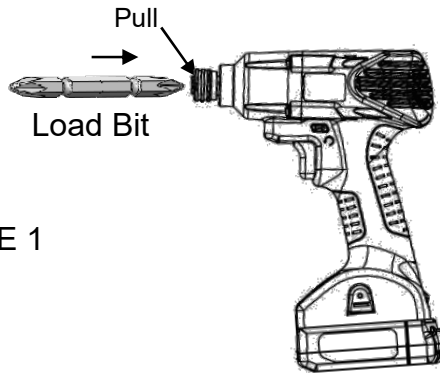

FIGURE 1
<div><div><p>(FIGURE 1)</p></div><div><p>Clip Latch Switch</p><p>(FIGURE 2)</p></div><div><p>(FIGURE 3)</p></div></div>
<p>(1) As shown by the circle in Figure 1: After the inverted triangle arrow on the screwdriver is aligned with the positioning line on the Battery, press the screwdriver down with clip latches.</p> <p>(2) Push the screwdriver as shown in Figure 2 in the direction of Battery clip latch, and you will hear a click, and the Battery clip latches will fasten the screwdriver.</p> <p>(3) Assembly is completed.</p>
(FIGURE 1)